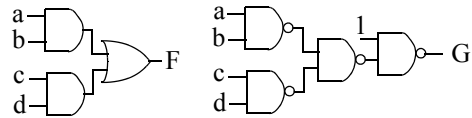

Figure 2.81
2.52 Determine whether the two circuits in Figure 2.81 are equivalent circuits using: (a) algebraic manipulation, and (b) truth tables.